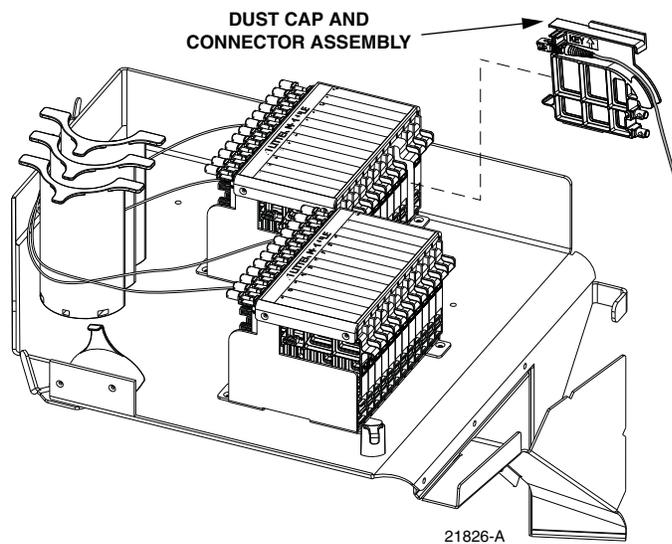

Figure 34. Inserting Dust Cap Assembly into Splitter Compartment
9. Connect the patch cord connector(s) to the feeder cable connector(s) by inserting the dust cap assembly into the splitter slot as shown in Figure 34.